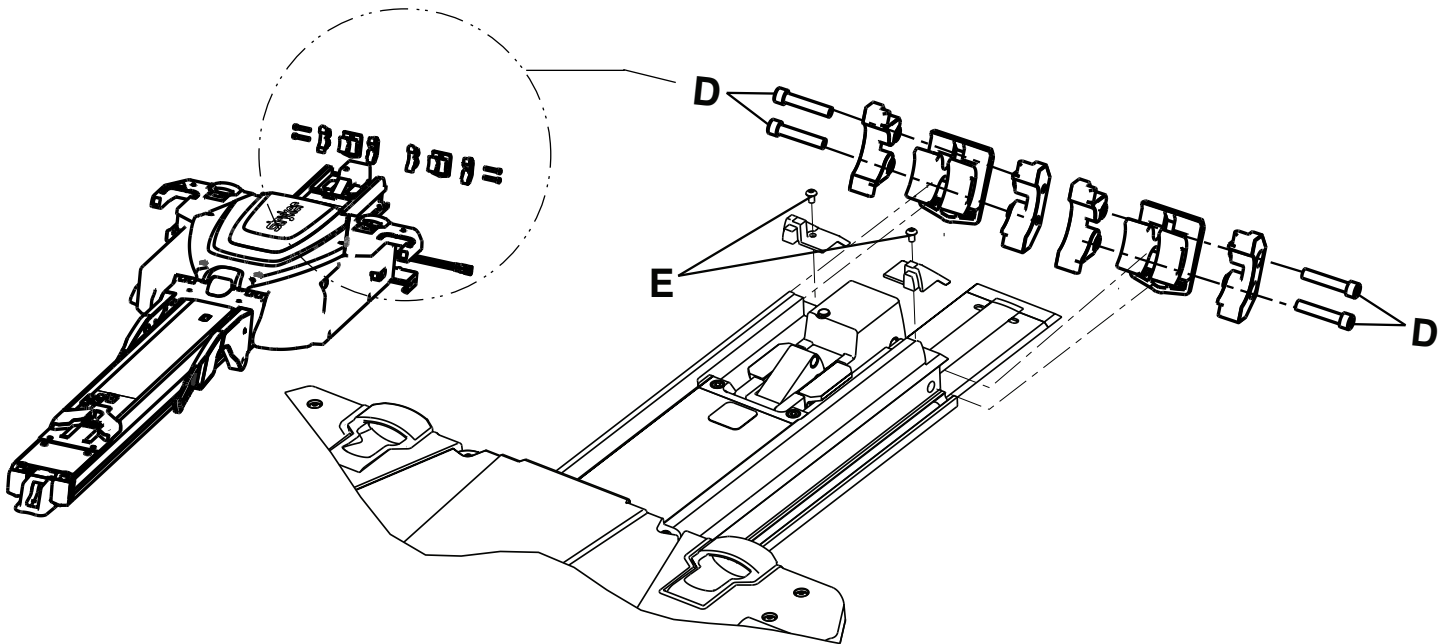

Figure 11 – Trolley screws
6. Using a T25 Torx driver, remove the two screws that secure the transfer trim (E) (Figure 11).
7. Using a 3/16" hex wrench, loosen (do not remove) the four socket head cap screws (two on each side) (D) that secure the dead stops to the transfer assembly (Figure 11).